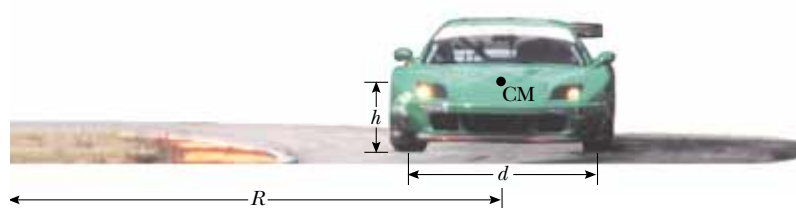

Figure P12.73
73. **Review problem.** A car moves with speed v on a horizontal circular track of radius R . A head-on view of the car is shown in Figure P12.73. The height of the car's center of mass above the ground is h , and the separation between its inner and outer wheels is d . The road is dry, and the car does not skid. Show that the maximum speed the car can